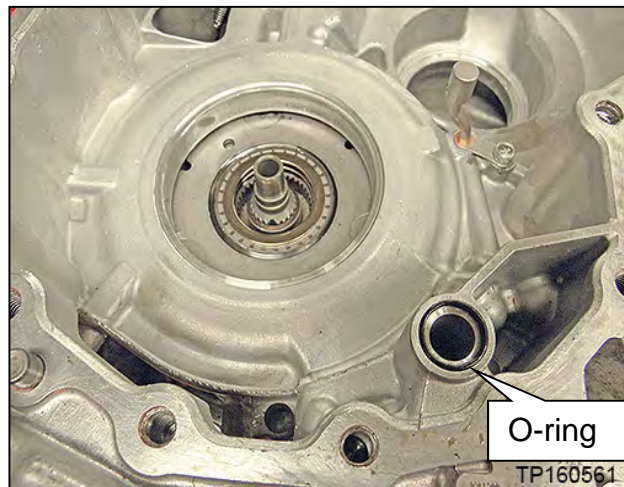

Figure 83
65. Replace the O-ring on the CVT case side with a new one (Figure 83).